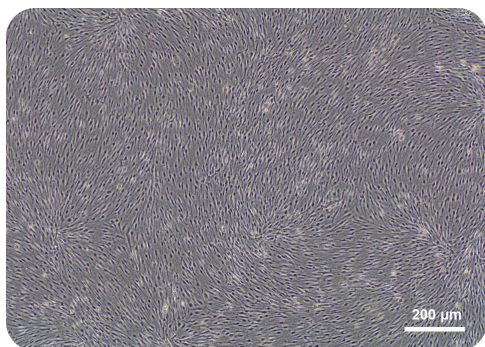

Figure 1. 90 - 100% Confluent Monolayer of H9-Derived Endothelial Cells at Passage 2 (4X Magnification)
15. Incubate at 37°C and 5% CO₂. If the cells have not grown to confluence after 3 days, perform a full-medium change with STEMdiff™ Endothelial Expansion Medium and continue incubation. When cells have reached 90 - 100% confluency, proceed to section B for passaging/expansion. Refer to Figure 1 for a representative image.